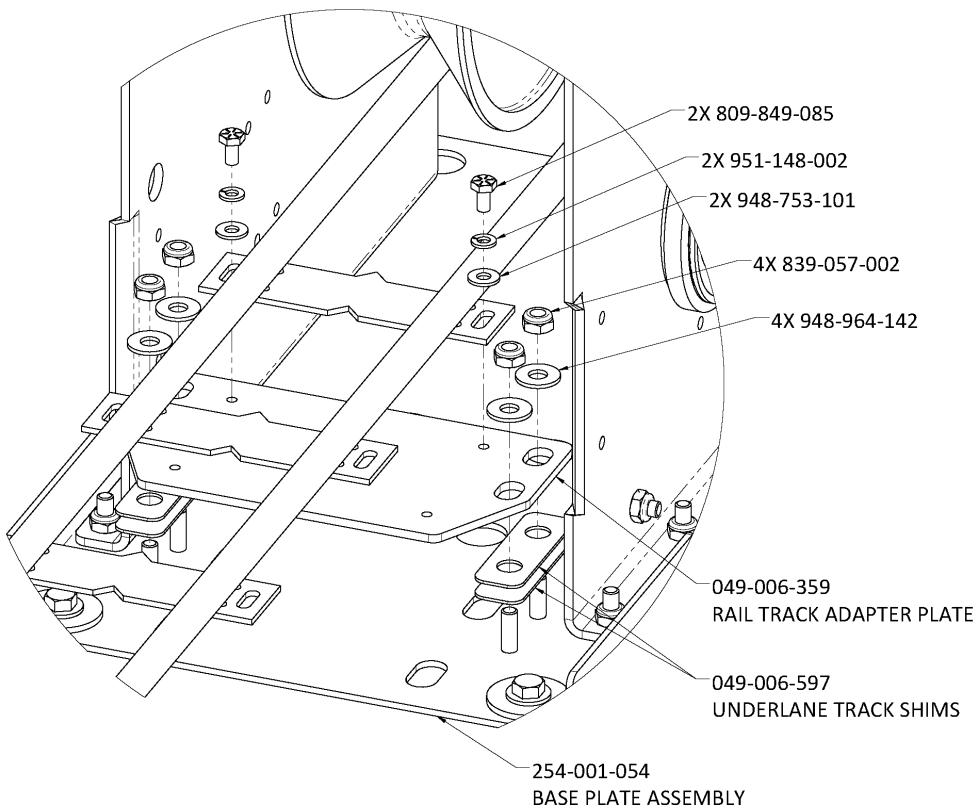

Figure 4, Track to Lift Connection
2. Place shims at four (4) lift-base mounting locations to achieve an install depth of 14.5" [368mm]. Secure using nails.
3. This step will require two (2) people. Lower the lift through the opening in the approach. Slide and tilt the lift away from the ball track. Lift up the end of the ball track and then slide the lift into position.
5. Lift the end of the ball track and place the adapter plate on the base plate over the four (4) studs. Attach the ball track to the adapter plate using the supplied hardware as shown in Figure 4.
7. Center the ball track to the ball lift and then secure with the supplied hardware. Test the alignment and height by rolling a ball on the track and into the lift. Shim the track adapter plate and adjust the position to attain a smooth transition of the ball into the lift. Use the specific shims provided as shown in Figure 4.